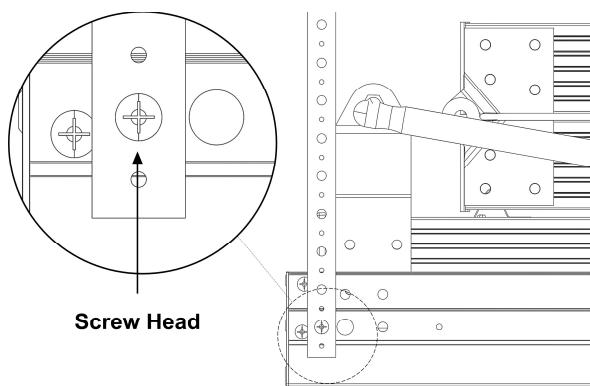

FIGURE 5: STRAP POSITION
C. Carefully unfold the 14" metal straps, these could have sharp edges. Place a #10 3/8" Philips screw through the **bottom** $\frac{1}{4}$ " diameter (large) strap hole. Position a metal strap against the side of aluminum frame over the predrilled hole as shown in **Figure 4** and **Figure 5**. DO NOT let the metal straps extend below the aluminum frame. See **Figure 7**. Hold the metal strap securely to prevent rotation of the strap while screwing it to the aluminum frame.
E. Position both straps vertically as shown in **Figure 5**. Fold both straps inward over the climbing section and out of the way. See **Figure 6**.